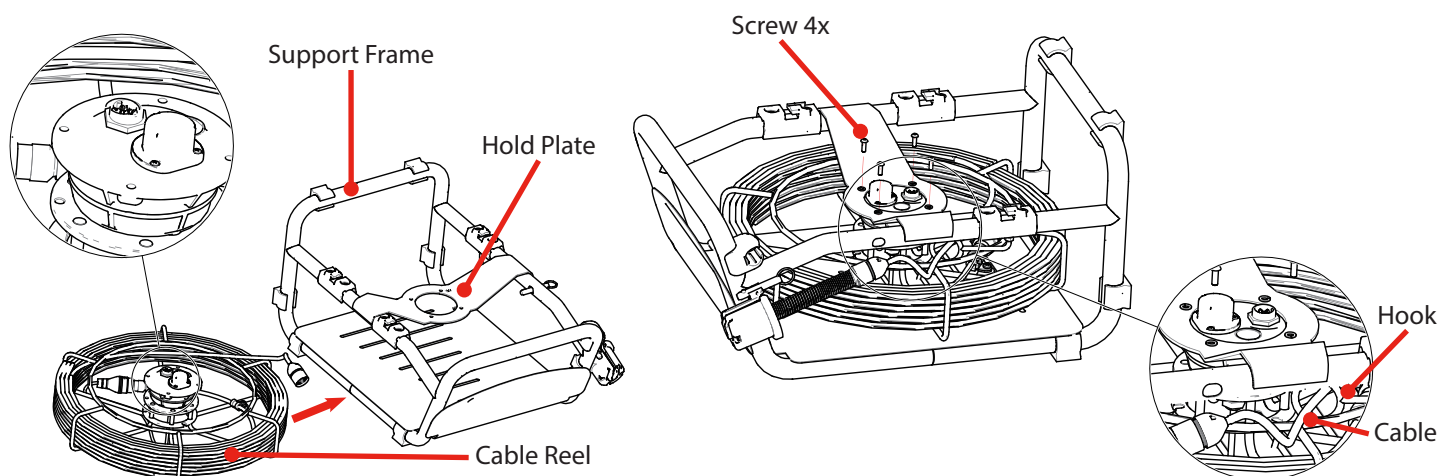

FIG. 6
1. INSTALL CABLE REEL (FIG. 6)